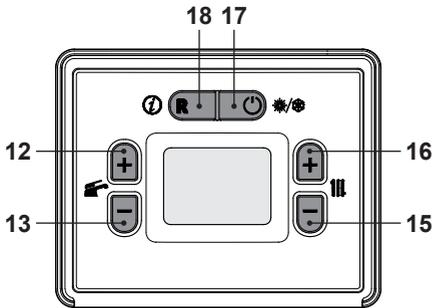

Figure 8.3
- Use 15 or 16 (Figure 8.3) to change the value of parameter A01 (Figure 8.5).
- Press 12 or 13 (Figure 8.3) to confirm the value entered and return to the list of parameters (Figure 8.4).
- Press 17 (Figure 8.3) to exit "programming mode".